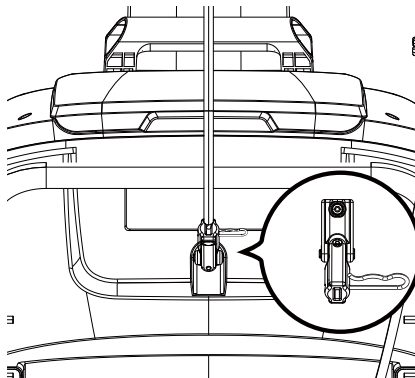

Fig. 7
- 1.** Remove the cotter pin (c) from the opening (b) at the back of the housing. (See Fig. 7)